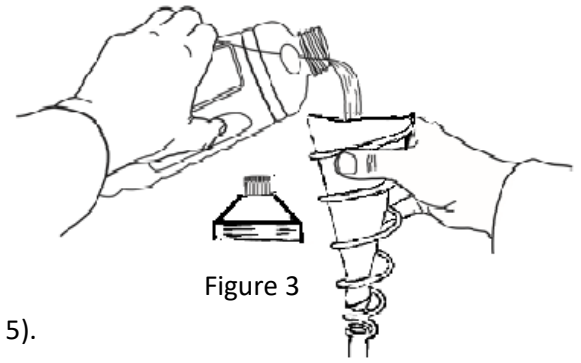

Figure 3
1. Unscrew metal flame guard from the glass vessel (Figure 3).